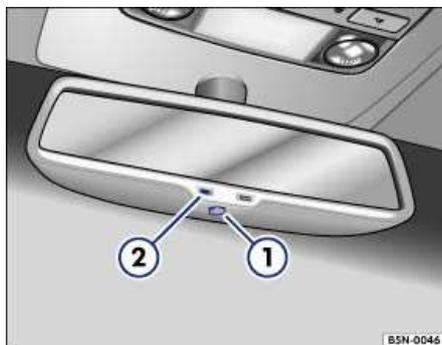

Fig. 48 Self-dimming inside day-night mirror.
A button (1) on the bottom of the mirror lets you switch the self-dimming feature on or off ⇒ Fig. 48. When you **switch on** the self-dimming function, the green indicator light (2) in the mirror comes on.